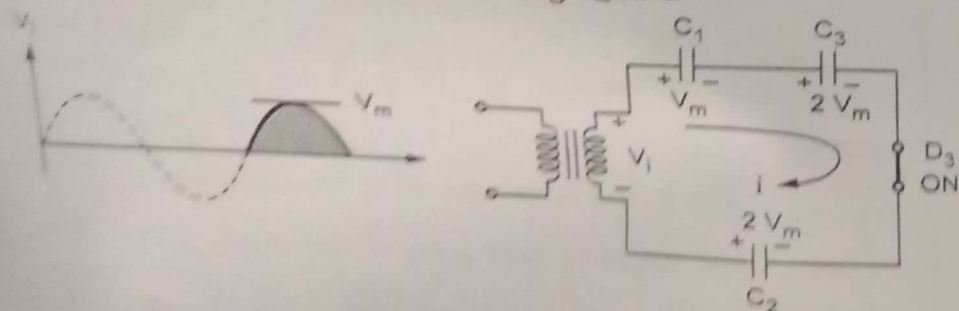

Fig. Q.53.4
- Thus the capacitor C_3 charges to $2V_m$ through forward biased D_3 with the polarities as shown in the Fig. Q.53.4.